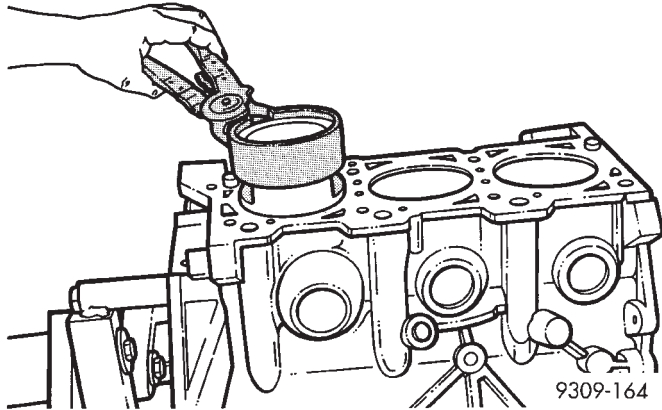

Fig. 85 Piston—Installation
(3) Immerse the piston head and rings in clean engine oil, slide the ring compressor, over the piston and tighten. **Be sure position of rings does not change during this operation.**
(4) Install connecting rod bolt protectors on rod bolts.
(5) Rotate crankshaft so that the connecting rod journal is on the center of the cylinder bore. Insert rod and piston into cylinder bore and guide rod over the crankshaft journal.
(6) Install the piston and connecting rod assembly with the directional letter is located on the top of the piston with the arrow facing toward the camshaft sprocket.
(7) Tap the piston down in cylinder bore, using a hammer handle. At the same time, guide connecting rod into position on connecting rod journal (Fig. 85).
(8) Install rod caps. Install nuts on cleaned and oiled rod bolts and tighten nuts to 51 N·m (37 ft. lb.).